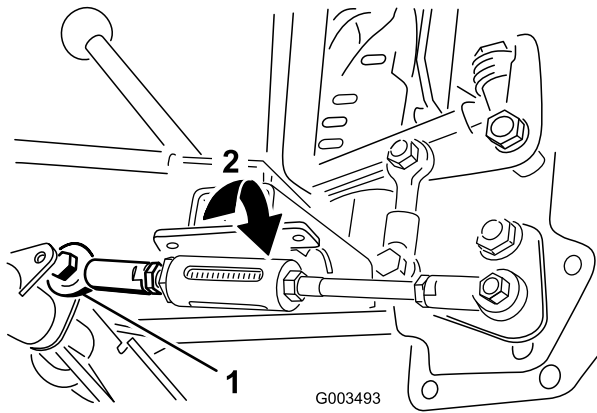

Figure 18
- A. Remove the bolt and nut securing the rod to the pivot tube (Figure 18).
- B. Rotate the ball joint shown in Figure 18 to change the length of the rod as follows: